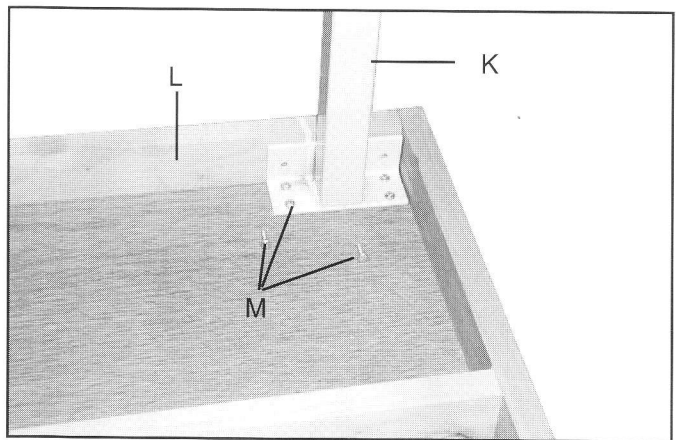
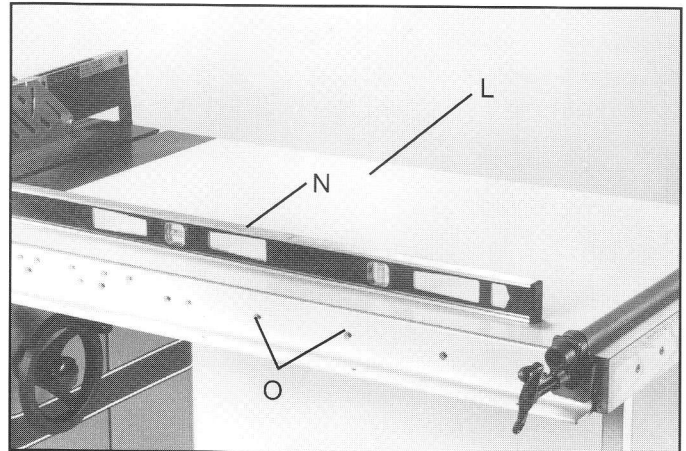

Fig. 19
Fig. 20
10. Position leg (K) to bottom to location in table board (L) as shown in Fig. 19.
11. Attach the table leg (K) to the table board (L) with six 5/8" long wood screws (M). Repeat this process for the remaining leg.
12. Place table assembly (L) in position between the front and rear rail, as shown in Fig. 20. Make sure end of table is flush against saw table and using a bar clamp, snug up ends of rails to hold table in position. Using a straight edge, (N), make certain table is in the same plane and level with saw table. Adjust leveling screws in bottom of support legs to accomplish this. When you are certain table is level and in the same plane as the saw table, tighten bar clamp to hold everything in position. Then drill 1/4" through holes through the front and rear table frame using holes (O) in the rail as a template. The number of holes to drill will depend on the length of the rails.